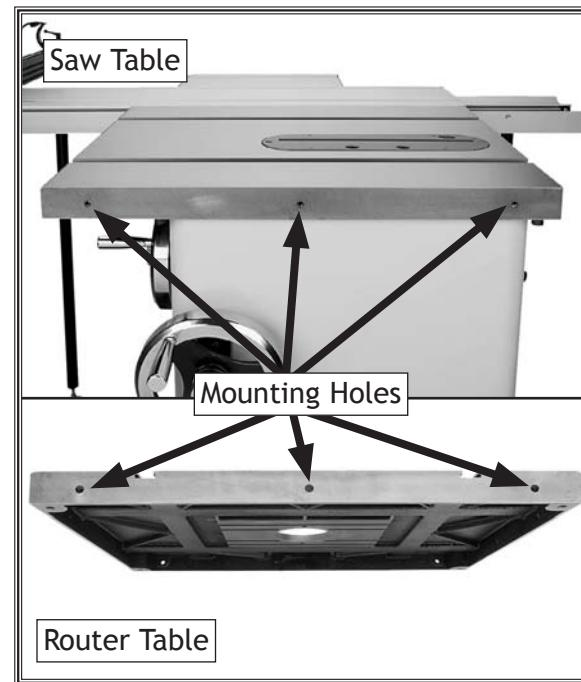

Figure 4. Mounting holes in saw and router tables.
- Mount the router table to the right side of the saw table or the existing right-hand wing. In these cases, you will probably need to drill and tap three M8-1.25 holes into the saw table or wing that match those in the router table (see **Figure 4**).